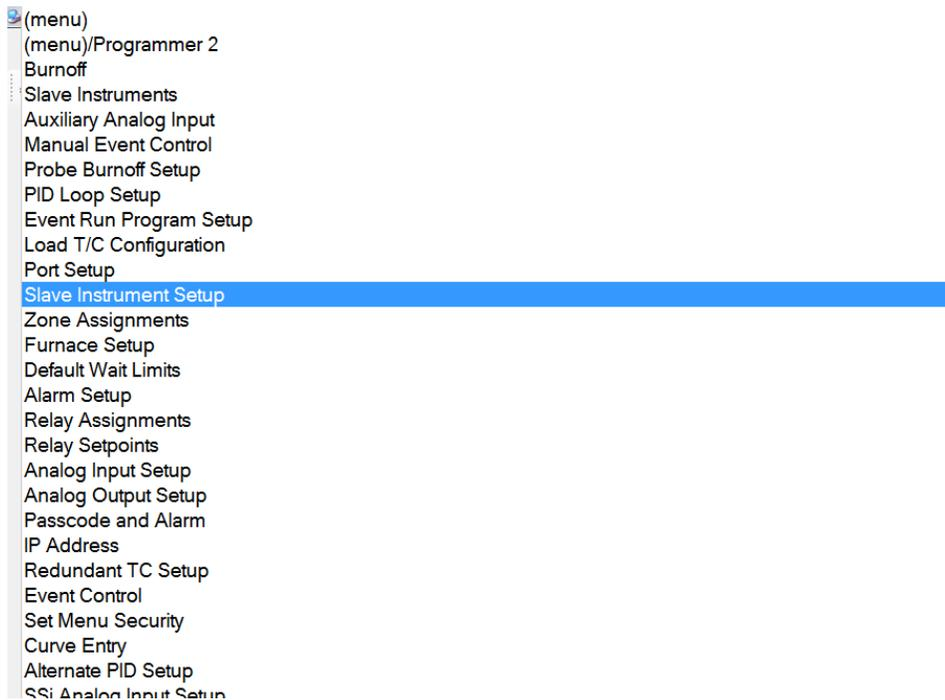

Figure 1 – Drop down selection menu in Configurator
- f. Click on the dropdown menu labeled “(Menu)” and find “Slave Instrument Setup”. (See Figure 1)